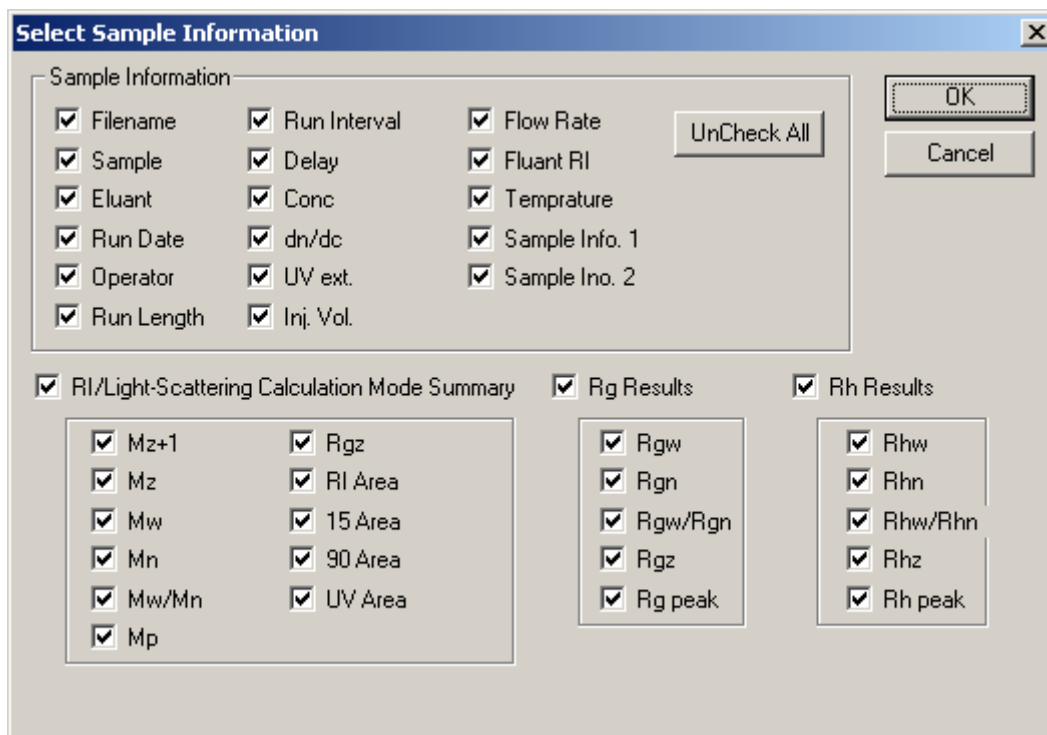

Figure 9-6: The Select Sample Information Dialog Box
- a) Press the  icon in the tool bar and click the cursor on the desired position in the pane to present the *Select Sample Information* dialog box (Figure 9-6).